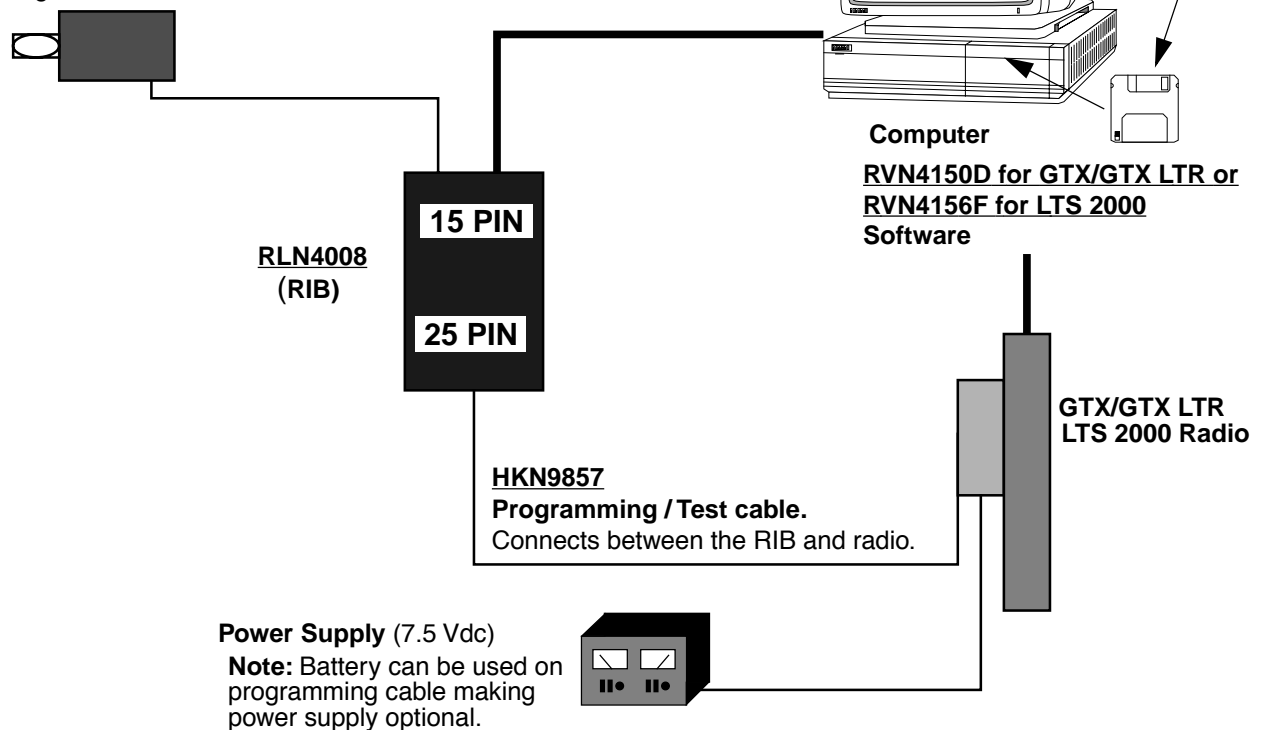

Figure 2. Equipment Setup
1. Connect the RIB to the computer (Figure 2).